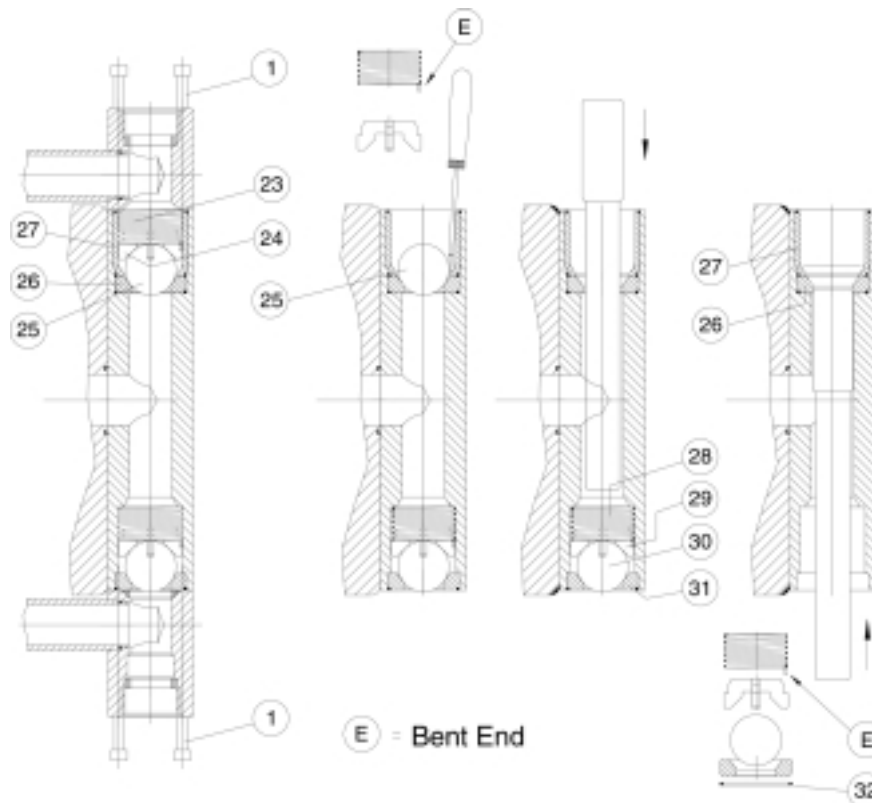

Figure 7
**Note:** Refer to Figure 7, on page 18 while performing the following procedures.
1. Using the 5 mm Allen wrench, remove the 16 socket head cap screws (1) that attach the inlet and outlet manifold assemblies to the pump.
2. Remove the two check valve springs (23), two ball followers (24), and two balls (25) from the outlet checks.
4. At the inlet check side of the manifold, use the dowel to press the outlet check valve seat (26) and retaining sleeve (27) out of the pump.